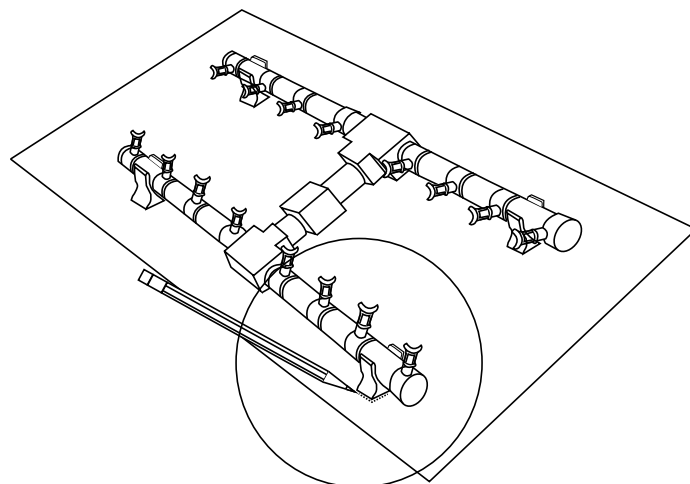

Fig. 8 Tracing burner supports.
Step 3: After the burner supports are installed, set the Pro H-burner into the burner pan, using the nipple to center the Spur burner inside the pan (Fig. 8). While holding the burner place, use a pencil or marker to trace around each burner support to mark their location. Remove the H-burner from the pan to reveal the outlined area for each burner support.